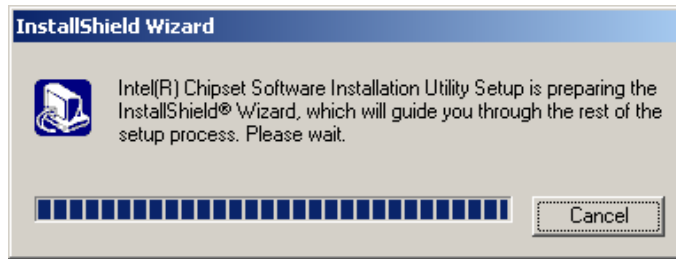

Figure 7-1: InstallShield Wizard Preparation Screen
Step 2: The “InstallShield Wizard Preparation Screen” in **Figure 7-1** appears.